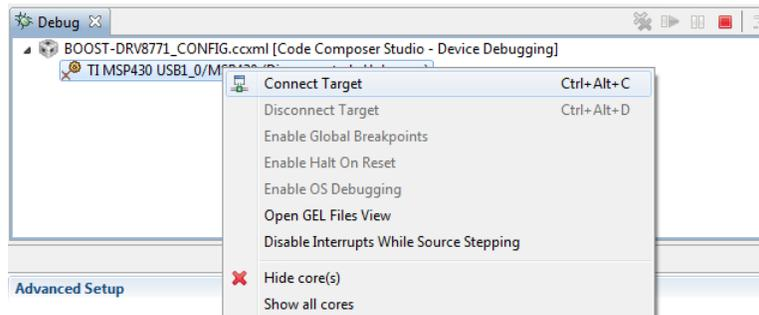

Figure 9. Connect Target Selection
- In the *Debug Menu*, right click on the **TI MSP430 USB1_0** connection and select **Connect Target** (see Figure 9)